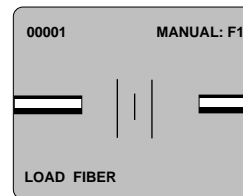

Figure 34
5.8 In the low magnification view, use the Fiber Position keys to position first the *left*, then *right*, cleaved ends of the fibers between the two larger vertical lines (Figure 34).